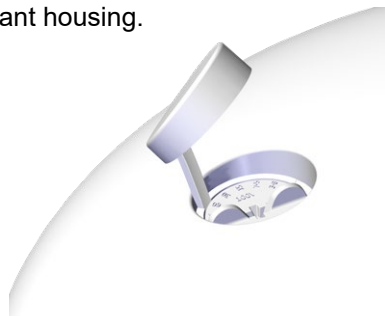

Figure 9a. Lift cap up and move out of the way to access tap.
2. With the cap moved up and out of the way, rotate knob to the appropriate setting and align with the arrows (Figures 9a, 9b).